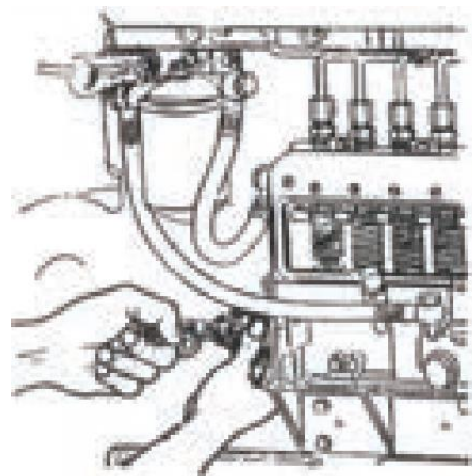

Figure 2-9 Adjustment of injection advance Angle
1) Method 1: Remove the high-pressure oil line from the first cylinder. Rotate the crankshaft to position the piston at the start of the expansion stroke. Align the pointer on the flywheel housing with the "0" mark on the flywheel. Reverse the diesel engine crankshaft until the indicator window aligns with the angle corresponding to the front injection timing on the flywheel. Loosen the two locking bolts on the fuel injector drive shaft coupling plate. Rotate the fuel injector camshaft in the correct direction until the fuel surface at the first cylinder outlet begins to ripple (as shown in Figure 2-9), then tighten the two bolts on the coupling plate.